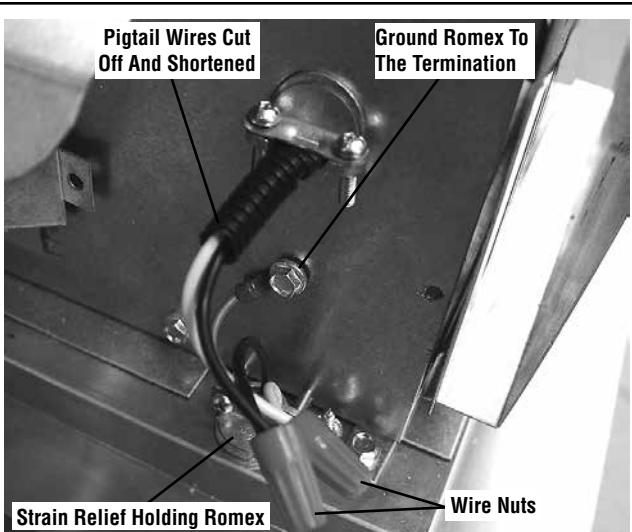

Figure 33 - Junction Box Cover Removed
4. Connect the black power supply wire to the **power outlet's** red pigtail lead and the white power supply wire to the **common** terminal of the outlet as shown in **Figures 33 and 34**.
- Refer to **Figure 33** to connect the three wires of the Romex cable to the termination. Ensure the ground ring terminal is grounded beneath a structural screw as shown. Attach the junction box cover to the termination with the screw previously removed.